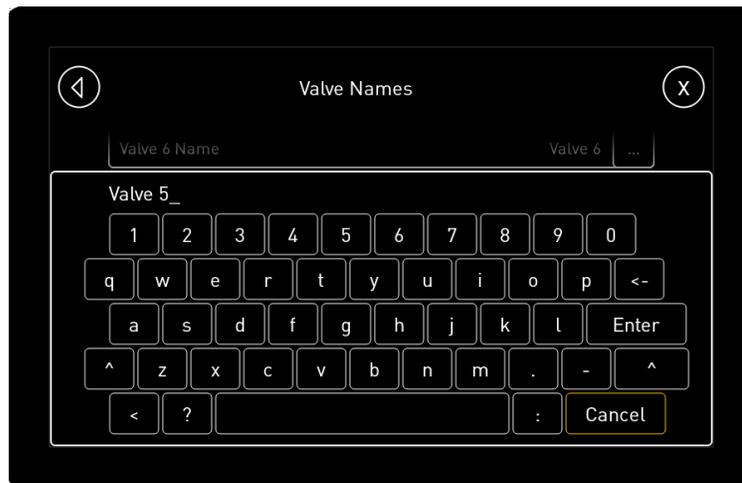

Figure 46: Valve Label Entry page
- Select the Label field to display a keyboard used change the label (Figure 46). The old label needs to be deleted by pushing the backspace button  to delete the old text. Then use the displayed keyboard to enter new text. The  button can be used to switch between upper/lower-case letters. Once you have the valve label as desired, then push the  button to save your changes and go back to the Valve Setup page (Figure 36). If you do not want to save your changes, push the  button instead. Note that the  and  buttons are NOT active controls on this page. Once the Valve Setup page is displayed again, confirm that the valve label has been changed.